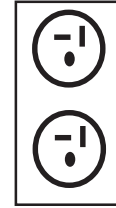

FIG. 27
**115 Volt Model Only.** Plug the control box power cord into a standard 115V AC 20-amp grounded receptacle. See FIG. 27.